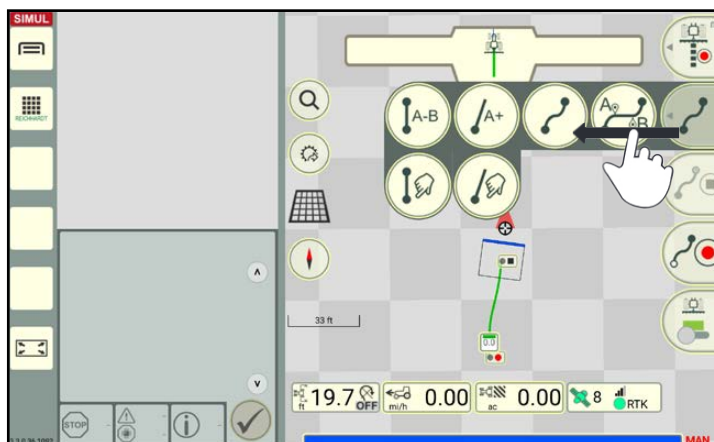

Fig. 85: Selecting the track type
- Swiping the second button of the field marking menu to the left (see Fig. 85)